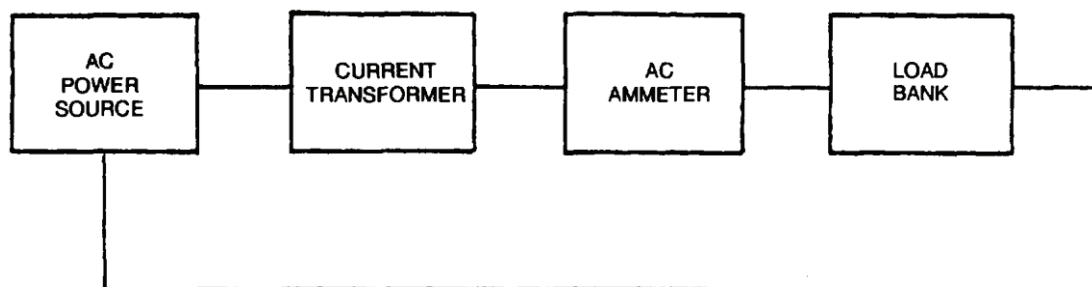

Figure 1. Testing Current Transformer.
3. Inspect current transformer (WP 0100, Figure 1, Item 7) for security, cracked housing, broken or stripped terminals, and loose or missing hardware.
6. Tag and disconnect current transformer (WP 0098, Figure 1, Item 31) electrical leads.
7. Tag and disconnect main generator cables T2 and T8 from voltage reconnection board (18).
8. Unwrap main generator cables from droop current transformer (34) and current transformer (31). Note number and direction of wraps.
9. Remove screws (29), flat washers (30), nuts (28), and current transformer (31) from output box.
3. Tag and disconnect electrical leads from current transformer (WP 0100, Figure 1, Item 7) secondary terminals.
8. Set up a test circuit using 10 gauge wire (Figure 1). Make sure to have ten passes with wire through phase A window.
1. Install current transformer (WP 0098, Figure 1, Item 31) with screws (29), flat washers (30), and nuts (28).
2. Wrap main generator cables around current transformer (31) and droop current transformer (34) using same number of wraps noted during removal.
3. Connect main generator cables to voltage reconnection board (18). Remove tags.
4. Connect electrical leads to current transformer (31). Remove tags. Close output box and right side engine access doors.